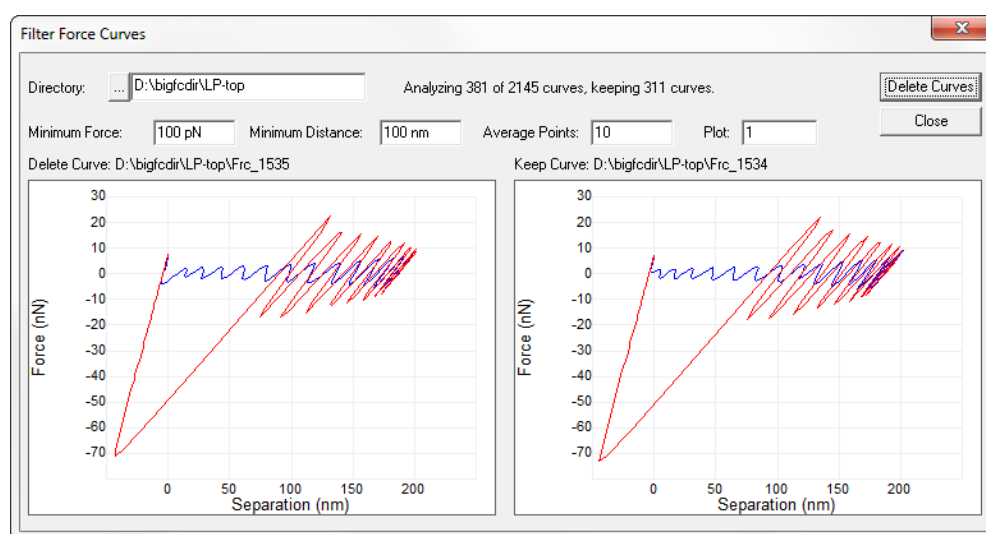

Figure 7.6a: The Filter Force Curves window
2. The **Filter Force Curves** window, shown in Figure 7.6a, opens.
4. Files meeting the deletion criteria will be shown in the left window, shown in Figure 7.6a, and a message, **Confirm File Delete**, will be displayed asking if you wish to send the specified file to the Recycle Bin.